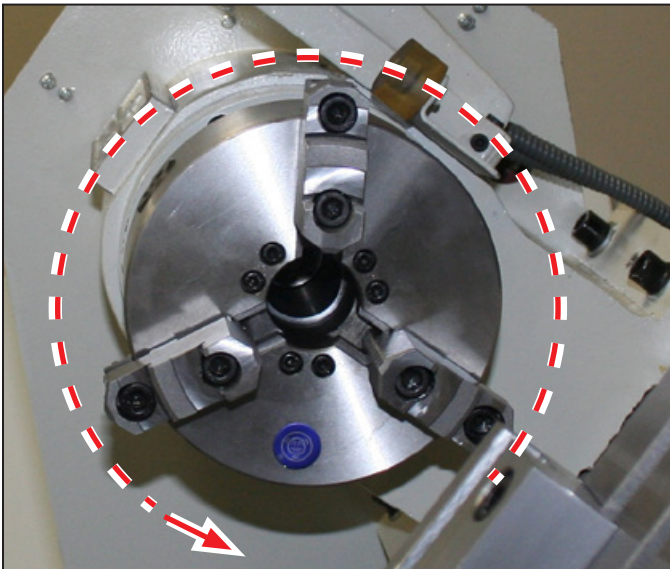
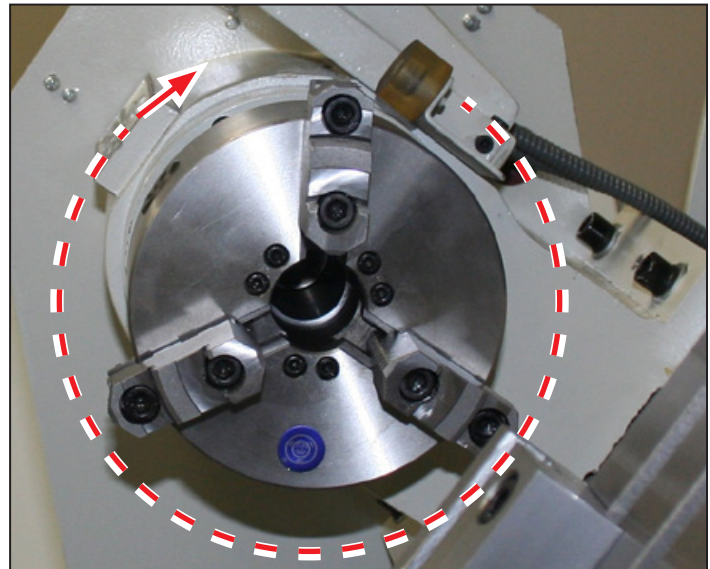

Figure 3.2
Figure 3.3
4. Observe spindle direction to confirm forward is correct (see **Figure 3.2**); repeat to confirm reverse is correct by clicking Spindle *REV* and observing spindle direction (see **Figure 3.3**). If not rotating as shown, refer to *Spindle Direction* section in chapter 8, *Troubleshooting*.